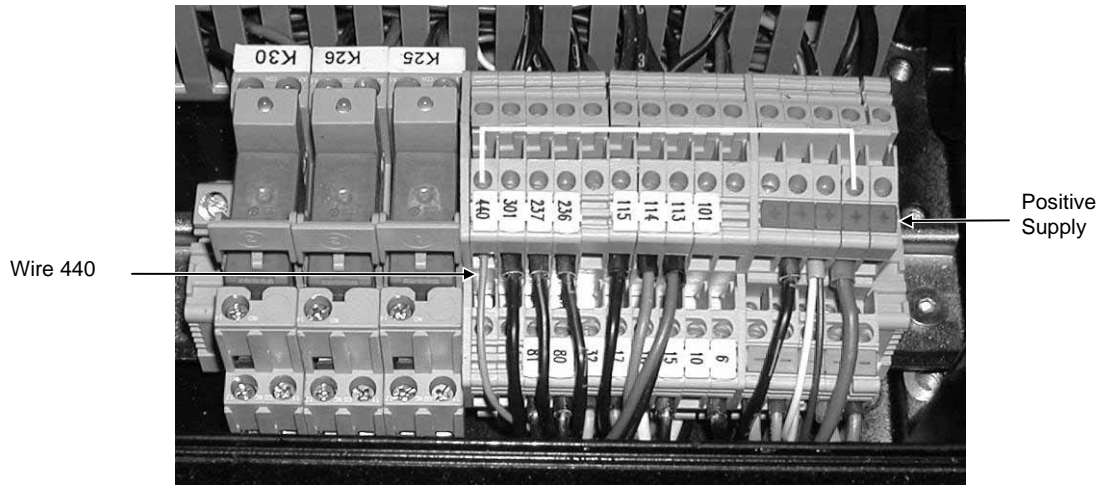

Figure 2 Resetting Crane Hour Meter
- b. Locate the green wire numbered 440 on the terminal block and bridge it to a positive supply at the opposite end of the block (Figure 2).